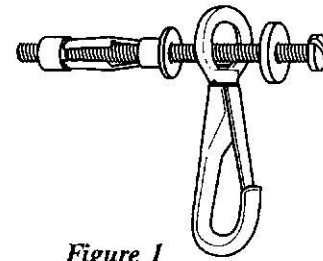

Figure 1
**Snap Hook.** Perhaps the most secure hanger is an ordinary snap hook bolted or screwed to the wall. (See Figure 1.) One or more washers may be needed to ensure the proper mounting angle, depending on the shape of the hook and on how close to the wall it needs to be. Snap hooks are somewhat longer than ordinary picture hooks; therefore, it may be necessary to shorten the hanger wire on a picture to prevent the hook from being visible above the frame.